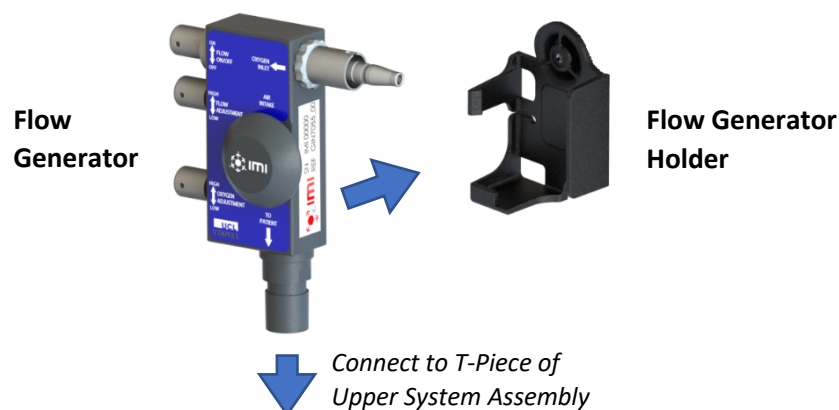

Fig. 5. . Flow generator installation to holder
- Clip in the **UCL Ventura** flow generator into the holder by pressing it perpendicularly firmly into the slot, as shown in Fig 5. Ensure that all clips have engaged before proceeding.